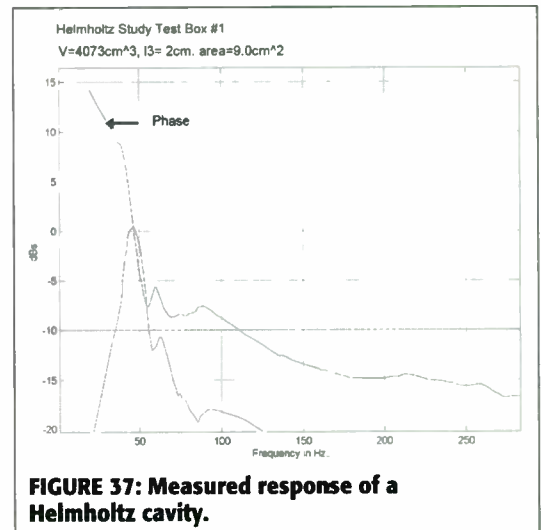

FIGURE 37: Measured response of a Helmholtz cavity.
Using these equations, you can simulate a typical Helmholtz-cavity response (Fig. 37). The physical cavity is a box of $V = 4073.7\text{cm}^3$, with panel thickness equivalent to neck length $l_3 = 2\text{cm}$, and neck area $S_R = 9\text{cm}^2$.
The TL line has a distinct bandwidth (BW) response, with the low-end slope defined by -18dB/octave , and the high-end characterized by line length. Note that, unlike the Helmholtz response of Fig. 37, the phase transition is shifted lower from the f_0 peak.
Knowing that the F_R is approximately 90Hz for a 1m line, you can compare it with the response BW around $F_R = f_0$ of Fig. 37, the Helmholtz cavity's BW. The two responses are significantly different.